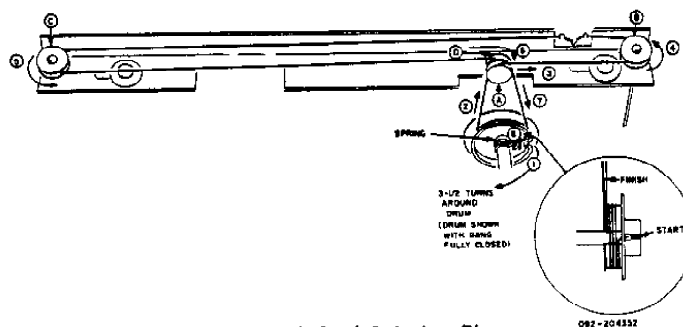

Figure 13. Dial Cord Stringing Diagram
5. Restring the dial cord as follows (Figure 13):
- (b) Proceed clockwise (1) around the drum $3\frac{1}{2}$ turns and up over wheel "A" (2) to wheel "B" (3).
- (c) Continue around wheel "B" (4) and across to wheel "C".
- (d) Continue around wheel "C" (5) and back across to wheel "D" (6) and down to the tuning drum (7).
- (e) Finish up by routing the cord into the drum slot and attach to the drum spring (8).